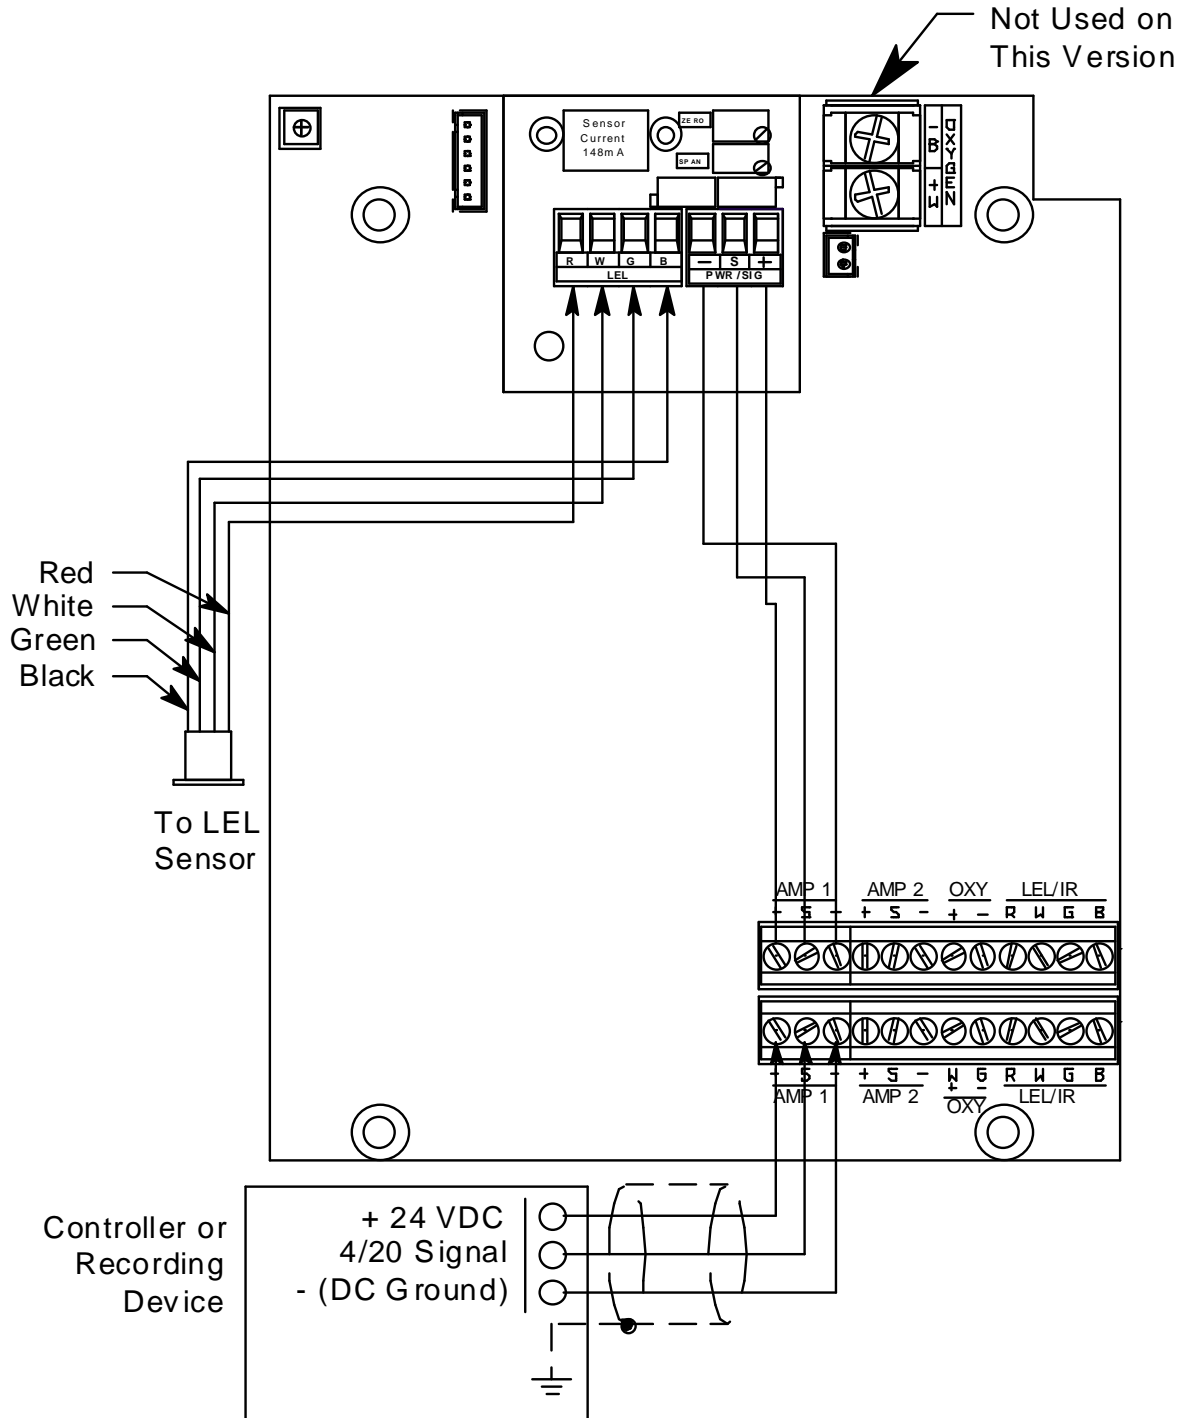

Figure 5: Wiring the Sample-Draw Detector to a Controller
5. Connect the cable to the sample-draw detector’s interconnect terminal strip as shown in Figure 5.
8. Connect the wires to the applicable detector/transmitter terminal strip at the controller as shown in Figure 5. Refer to the controller operator's manual and the controller detector head specification sheet for the 35-3001A-01 for detector/transmitter terminal strip connections specific to the controller.